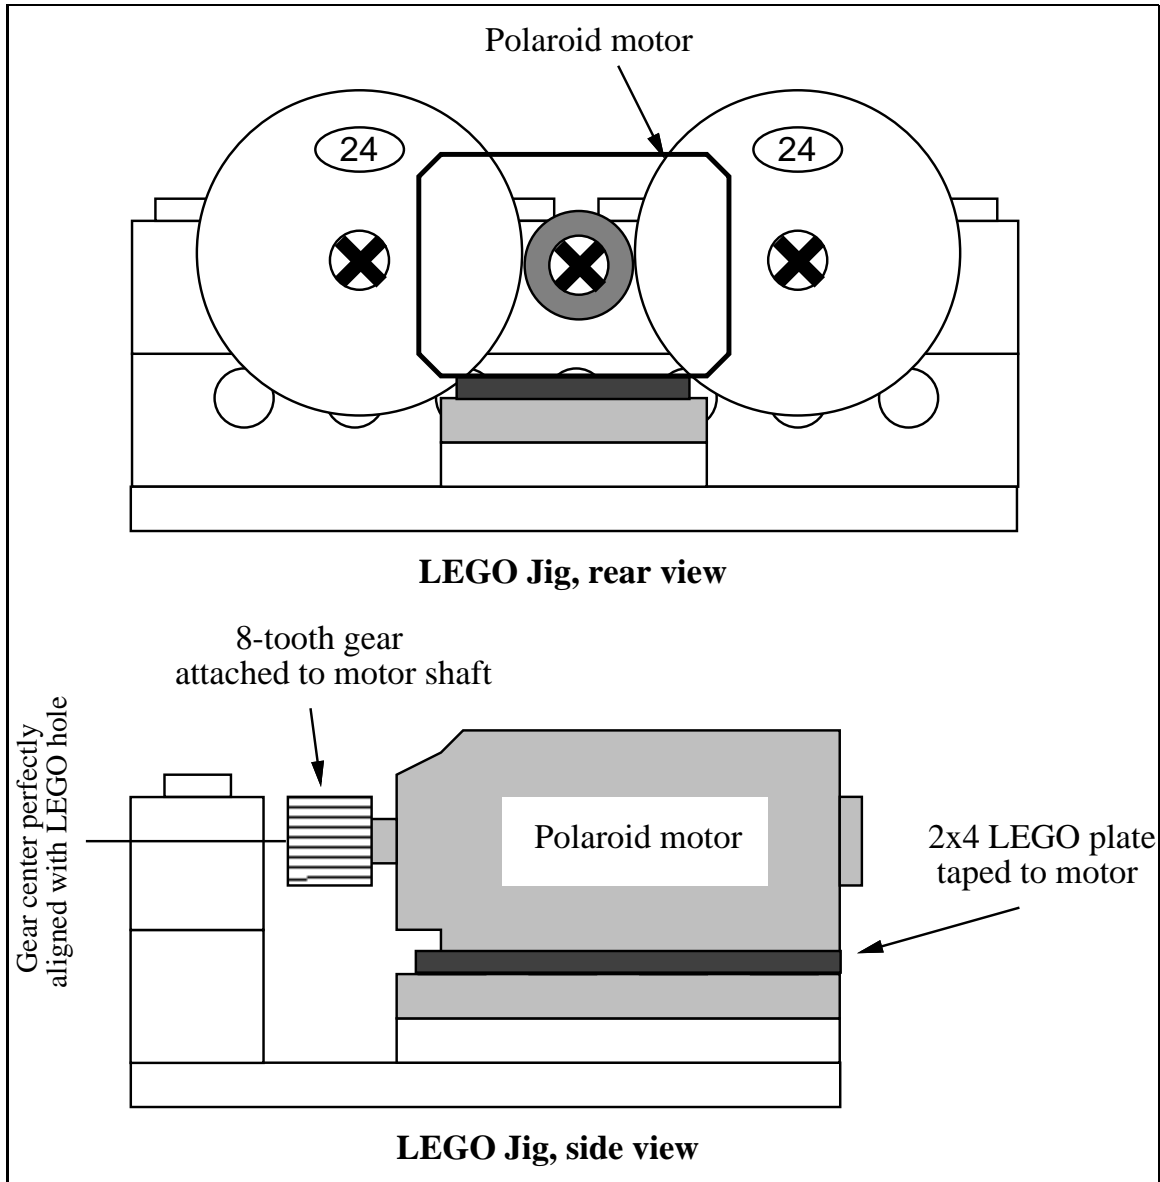

Figure 4.21: LEGO Jig for Mounting Polaroid Motor
This platform or jig is shown in Figure 4.21. It is constructed from two  $2 \times 8$  beams, one  $6 \times 8$  flat plate, one  $2 \times 4$  plate, two 24-tooth gears, and two axles.
- Assemble the jig as shown in Figure 4.21. A second  $2 \times 4$  plate will be mounted to the motor.